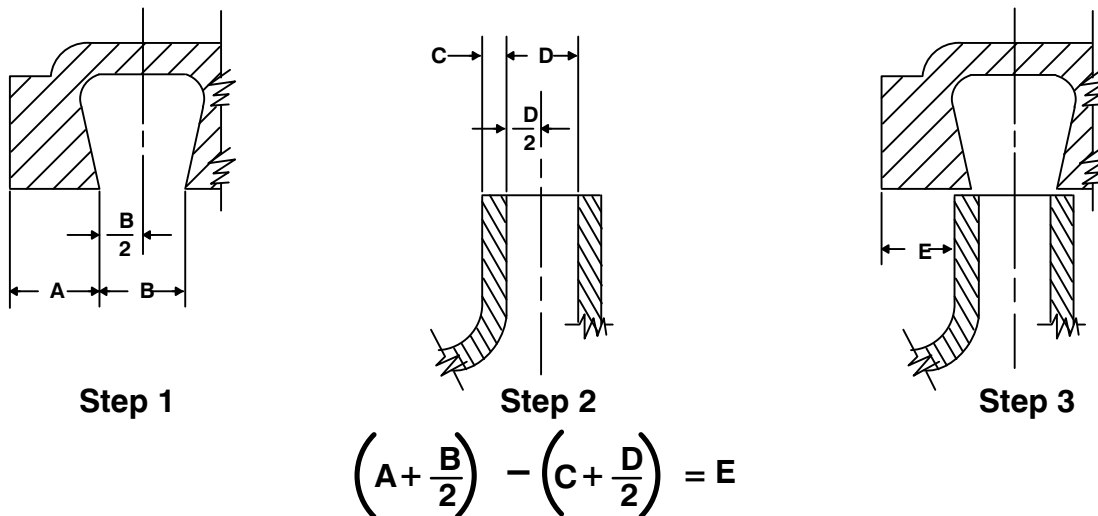

Figure 10. Centering Impeller Within Volute Scroll
To verify the impeller positioning, measure the pump casing and impeller as shown in Figure 10. Use these measurements to calculate the required impeller location (dimension E). Add or remove impeller adjusting shims (48) until dimension E is obtained.